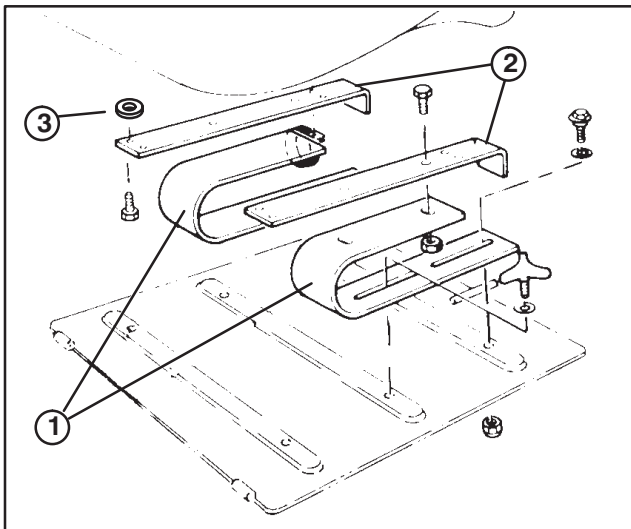

Figure 2
1. Attach “U” springs to seat mounting brackets with (4) capscrews and flange nuts as shown in figure 2.
2. Secure seat mount assemblies to bottom of seat with (4) flange head capscrews and (4) spacers. (Fig. 2). Spacers to be positioned between seat and seat mount.
5. Mount seat and spring assembly to rear holes in seat mounting plate with two shoulder bolts, small I.D. flat washers and locknuts (Fig. 2 & 5).
3. Shoulder bolt with washer and locknut (2)
4. Adjustment handle (2)
6. Secure front slot of seat springs to traction unit front mounting holes with adjustment handles and flatwashers (Fig. 2 & 5).
3. Install manual tube into R-clamps, insert manual into tube and thread cap into tube (Fig. 2). Tighten capscrews.